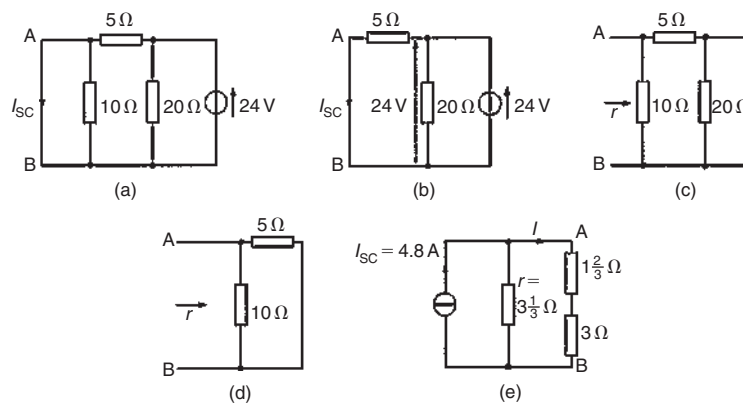

Figure 13.61
- (i) The branch containing the $3\ \Omega$ resistance is short-circuited as shown in Fig. 13.61(a)
- (ii) From the equivalent circuit shown in Fig. 13.61(b),
- (iii) If the 24 V source of e.m.f. is removed the resistance 'looking-in' at a break made between A and B is obtained from Fig. 13.61(c) and its equivalent circuit shown in Fig. 13.61(d) and is given by:
- (iv) From the Norton equivalent network shown in Fig. 13.61(e) the current in the 3Ω resistance is given by: